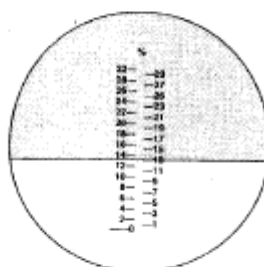

Fig. 2
5. Aim the front end of the refractometer toward the light source and adjust the eyepiece until the boundary line and the scale are in focus. The light/dark boundary will show the percent sugar contained in the sample on the scale. (See Fig. 2). After use, clean the platform with distilled water and a soft cloth.